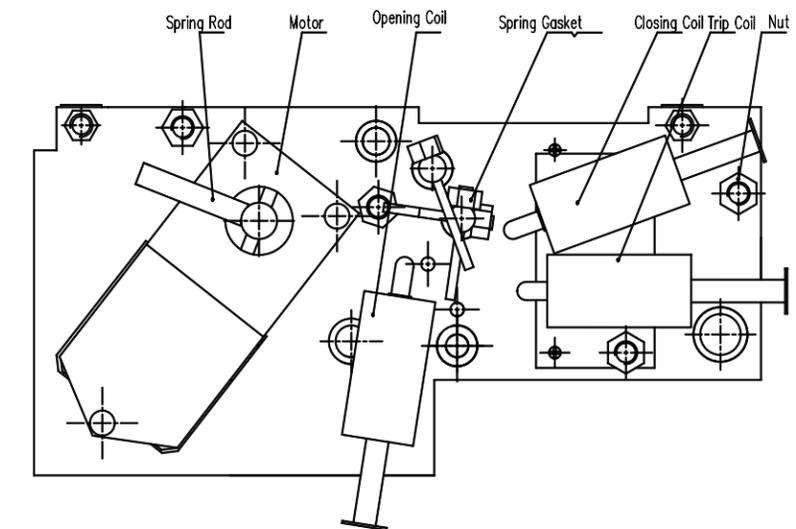

Fig.9 Structure of Spring Operating Mechanism
6.3 Spring Operating mechanism (as per Fig. 9)